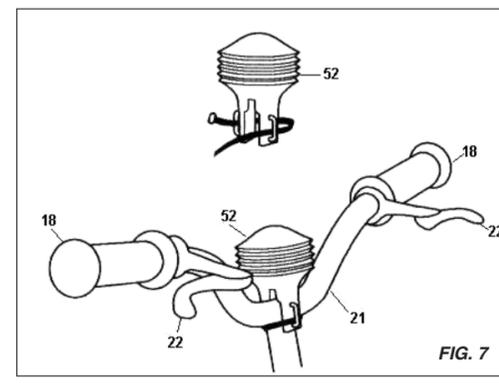

FIG. 7
#### 5. FITTING THE HORN (Fig. 7)
The horn (52), if included, may be found in the accessory bag. Place the horn (52) in the centre of the handle-bar (21) and fix it firmly with the plastic ties provided as shown on Fig. 7.